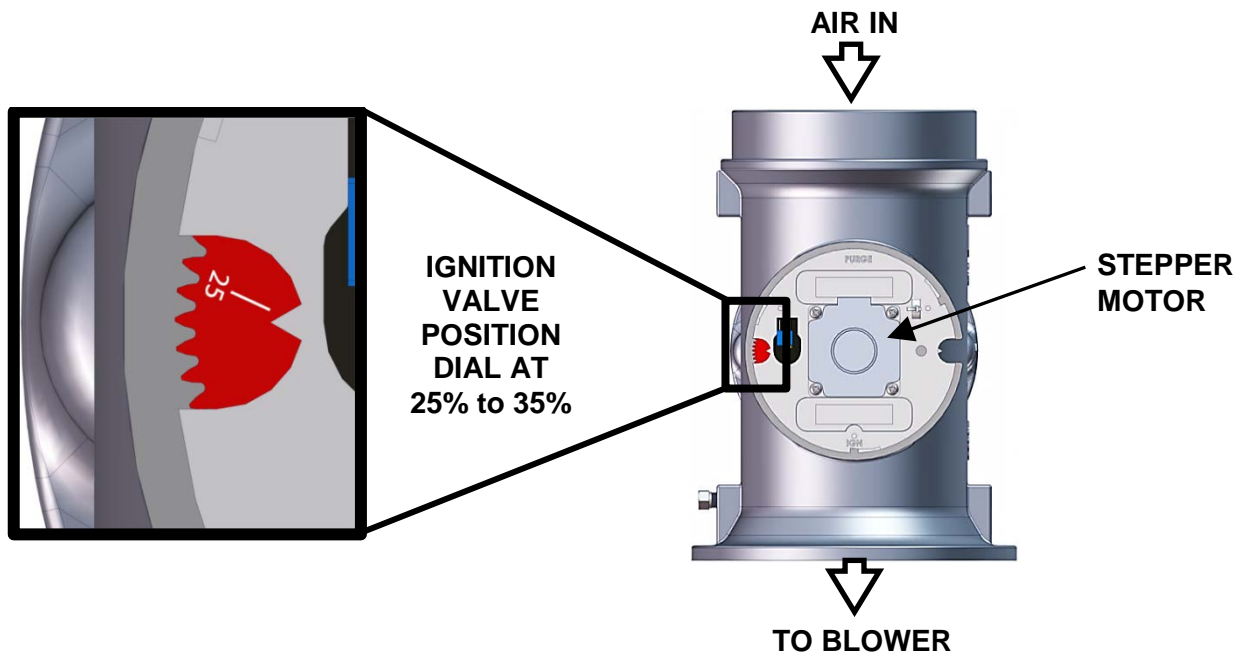

Figure 3-6. Air/Fuel Valve In Ignition Position
- (a) The Air/Fuel Valve rotates to the low-fire ignition position and closes the ignition switch. The dial on the Air/Fuel Valve (Figure 3-6) will read between 25 and 35 to indicate that the valve is in the low-fire position.